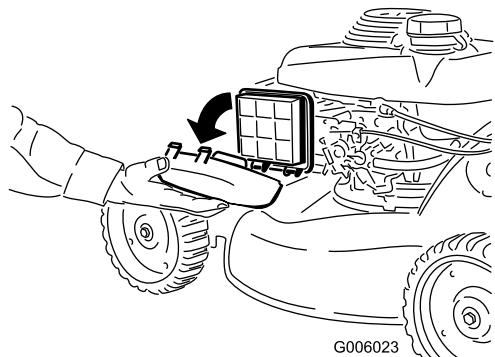

Figure 10
B. Remove the air cleaner cover to see the throttle on the engine more easily (Figure 10).